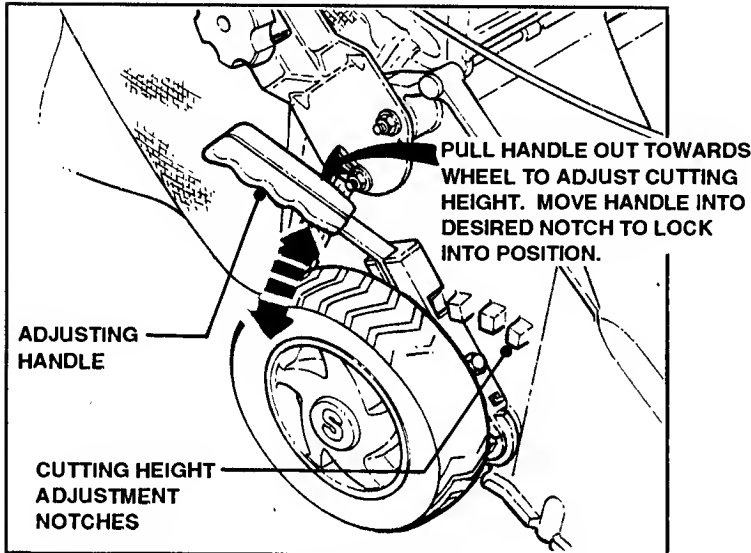

FIGURE 2.4
1. Pull ADJUSTING HANDLE out towards the wheel and move to desired notch. Move handle to lock in position. See Figure 2.4.